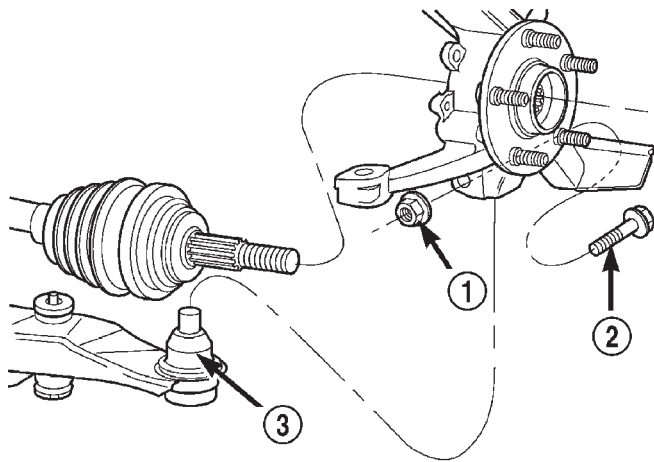

Fig. 11 Ball Joint Bolt And Nut
- (12) Remove the tie rod heat shield.
- (13) Remove the nut and pinch bolt clamping the ball joint stud to the steering knuckle (Fig. 11).
(1) If the steering knuckle has been replaced, refer to STEERING KNUCKLE in DISASSEMBLY AND ASSEMBLY found in this section of this service manual group for the wheel bearing and hub installation procedure. Do not reuse the old wheel bearing.
(2) Slide the hub of the steering knuckle onto the splines on the driveshaft C/V joint.
(3) Install the steering knuckle onto the ball joint stud aligning the bolt hole in the knuckle boss with the notch formed in the side of the ball joint stud.
(4) Install a new ball joint stud pinch bolt and nut (Fig. 11). Tighten the nut to a torque of 95 N·m (70 ft. lbs.).